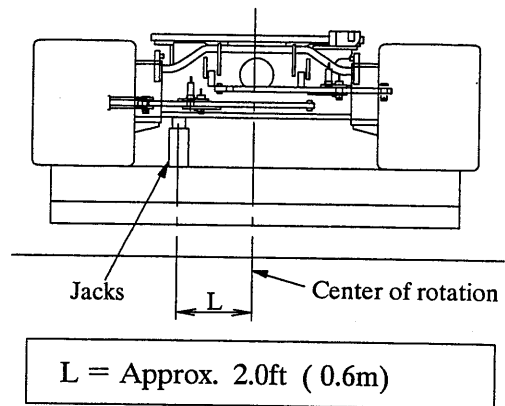

Fig. 11-8
- (1) With the machine loaded on the trailer (the machine is parallel to the crawler, and the swing brake is actuated with the swing lock engaged), fit jacks to the specified positions on the axle (2 pos. on one side), and jack up the machine until the lower roller is slightly raised. (Fig. 11-8)